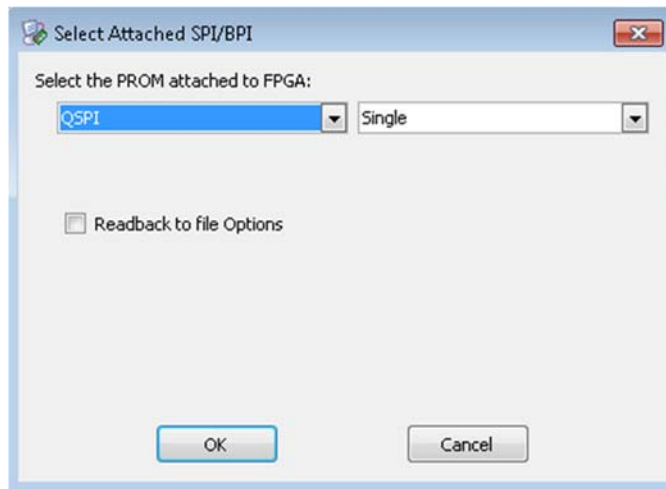

Figure 2 - IMPACT PROM selection screen.
- ___ DONE b. Select the first object in the chain, right-click and select *Add SPI/BPI Flash*. Change the file selection option from the default of **MCS Files (*.mcs)** to **BIN Files (*.bin)**. Browse to the BOOT.BIN file and hit OK. A dialog as shown in Figure 2 will pop up.